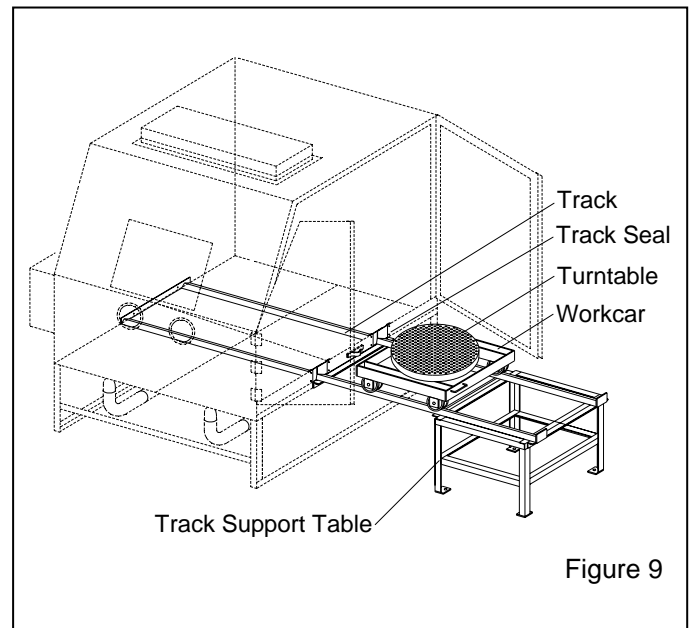

Figure 9
**3.4.1.1** These instructions cover field installation for 500 lb. capacity workcar and track assemblies. If the track was ordered with the cabinet, it is partially assembled at the factory. Disregard the instructions that do not apply. See Figure 9 for arrangement of the major components.
**3.4.3.2** Being careful not to damage the track seals, lay the track assembly in the cabinet as shown in Figure 9. Align the mounting holes in the track support table with the track cross supports as shown in Figure 11, Secure with 3/8-NC x 1" cap-screws, lock-washers, and nuts.